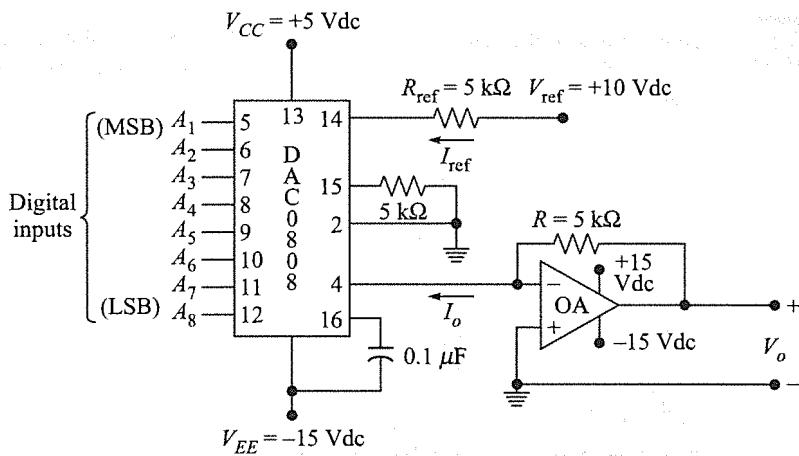

Fig. 12.18
An inexpensive and very popular D/A converter is the DAC0808, an 8-bit D/A converter available from National Semiconductor. Motorola manufactures an 8-bit D/A converter, the MC1508/1408. In Fig. 12.18, a DAC0808 is connected to provide a full-scale output voltage of  $V_o = +10$  Vdc when all 8 digital inputs are 1s (high). If the 8 digital inputs are all 0s (low), the output voltage will be  $V_o = 0$  Vdc. Let's look at this circuit in detail.
Since  $V_{\text{ref}}$  in Fig. 12.18 is +10 Vdc, the output voltage is seen to have a range between 0.0 and +9.96 Vdc. It doesn't quite reach +10 Vdc, but this is characteristic of this type of circuit. This circuit is essentially the current-mode operation discussed in the previous section and illustrated in Fig. 12.12b.
6. What would be the full-scale output voltage in Fig. 12.18 if  $V_{\text{ref}}$  were changed to +5 Vdc?
7. What is the resolution of the DAC0808 in Fig. 12.18?